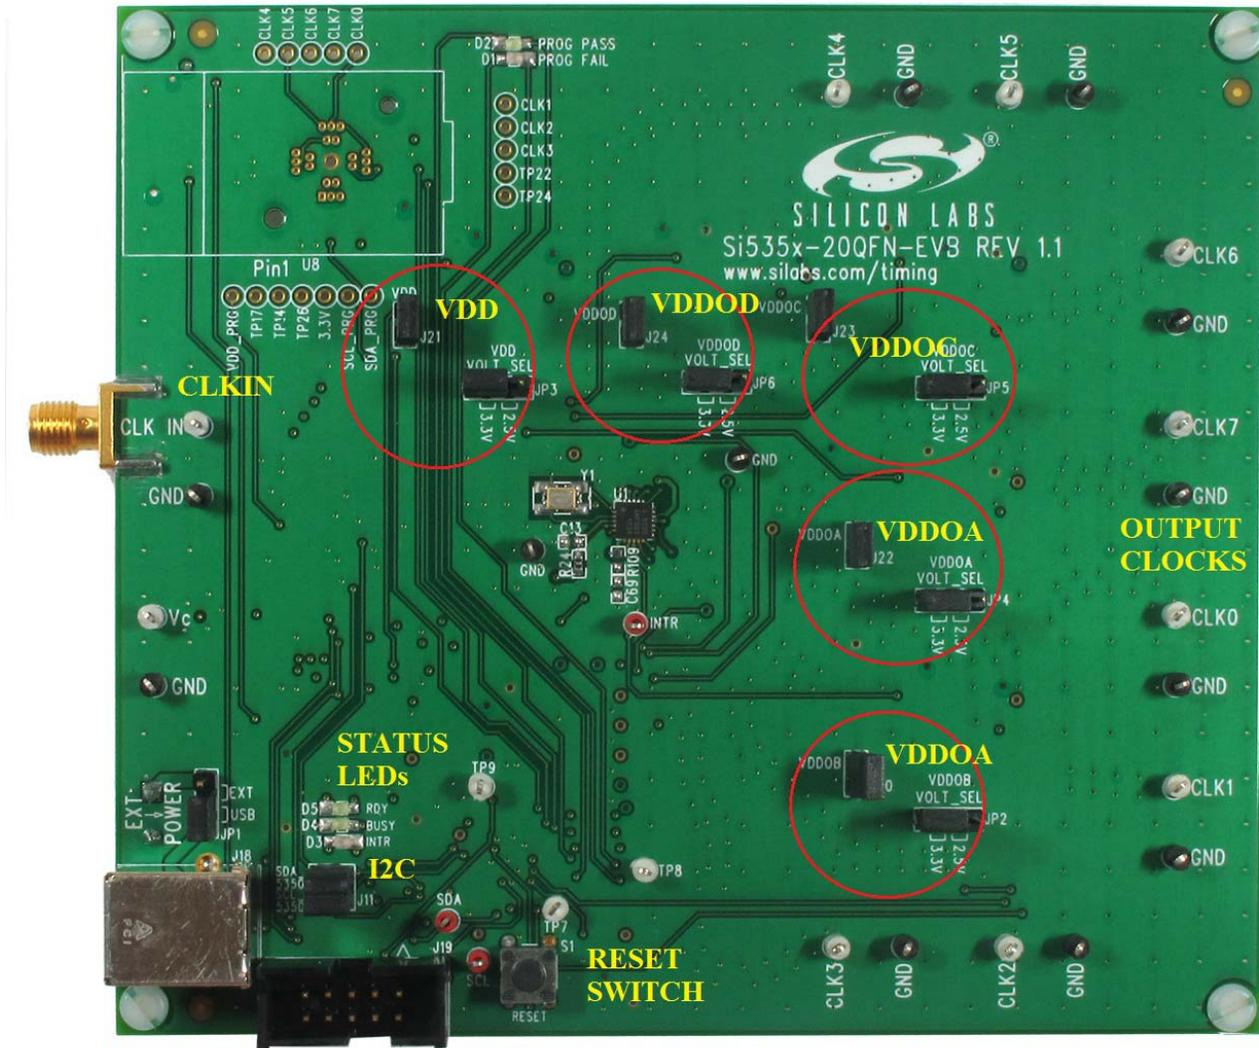

Figure 1. EVB Features
Figure 1 highlights the main features of the EVB. The onboard MCU is responsible for programming the Si535x timing IC, measuring the device's current consumption reported in the ClockBuilder™ Desktop, managing power, and controlling status LEDs. VDD and VDDO jumpers allow the option of choosing between 2.5 V and 3.3 V or powering the device with external supplies (see “2. Jumpers” for details). I²C jumpers allow the Si535x to be disconnected from the I²C bus, allowing external control from another I²C master.
- **EXP POWER**—Allows user to select between 5 V USB supply and 5 V external supply on J17. See Figure 1 for jumper locations.